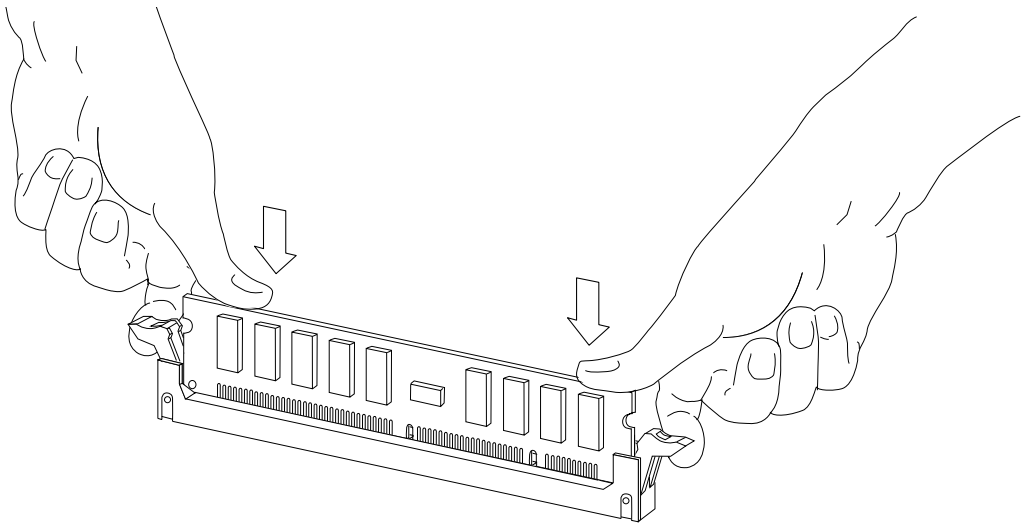

FIGURE 3-15 Installing a SIMM
- 5. Place your thumbs on the top edge of the SIMM and push the SIMM firmly into its connector (FIGURE 3-15).**
- 6. Lock the SIMM in place by pushing both ejector levers into the upright position (FIGURE 3-15).**